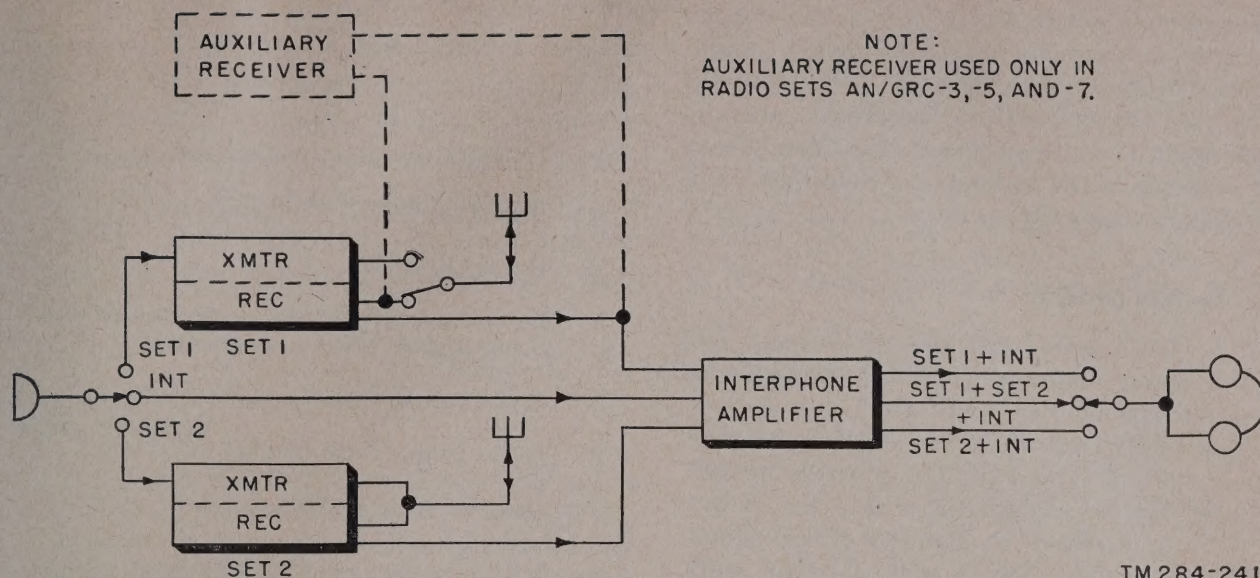

Figure 56. Basic system block diagram.
a. Each of the radio sets consists of two receiver-transmitters and an interphone amplifier, with speech-input and monitoring facilities as shown in figure 56. In Radio Sets AN/GRC-3, -5, and -7, the output of an auxiliary receiver is paralleled with the output of the Set 1 receiver. These basic units are the essentials of the systems. Power supplies, cables, mountings, and miscellaneous equipment are supplied to make the basic units perform their function of transmitting, receiving, or monitoring.
c. An adaptation of the basic system (fig. 37) allows the radio set to function as a relay station to extend the range of another radio set or to provide a link between two sets whose different frequency ranges make communication otherwise impossible. As indicated in figure 37, the signal picked up by one receiver-transmitter is retransmitted over the other receiver-transmitter. Retransmission can take place in either direction. In this application, the microphone input of figure 56 is replaced by a signal received from a distant set. The retransmission unit (Control C-435/GRC) provides the necessary switching facilities for these functions; it also provides facilities for the basic mode of operation illustrated in figure 56.
d. Another facility provided by Control C-435/GRC adapts the basic system for duplex operation (fig. 38). In this adaptation, a dual channel of communication is established with another radio set, with transmission taking place over one receiver-transmitter at one frequency while reception takes place over the other receiver-transmitter at a different frequency. Simultaneous two-way or *break-in* operation is possible. If the microphone in figure 56 is switched to Set 1 while the headset is switched to monitor Set 2, the basic duplex function is